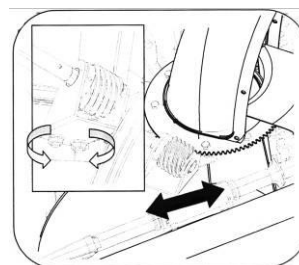

Figure 35
2. Retightening the nuts. See Figure 35.